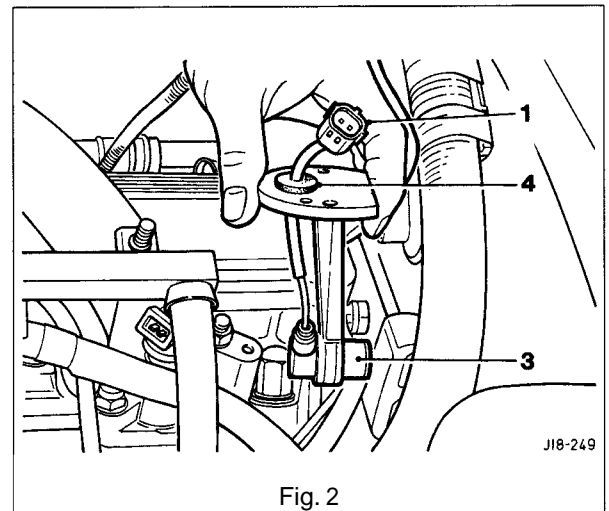

Fig. 2
- Displace the sensor mounting bracket from its locating roll pin (3 Fig. 2).
- Push the split grommet out of the mounting bracket and remove it from the sensor lead (4 Fig. 2).